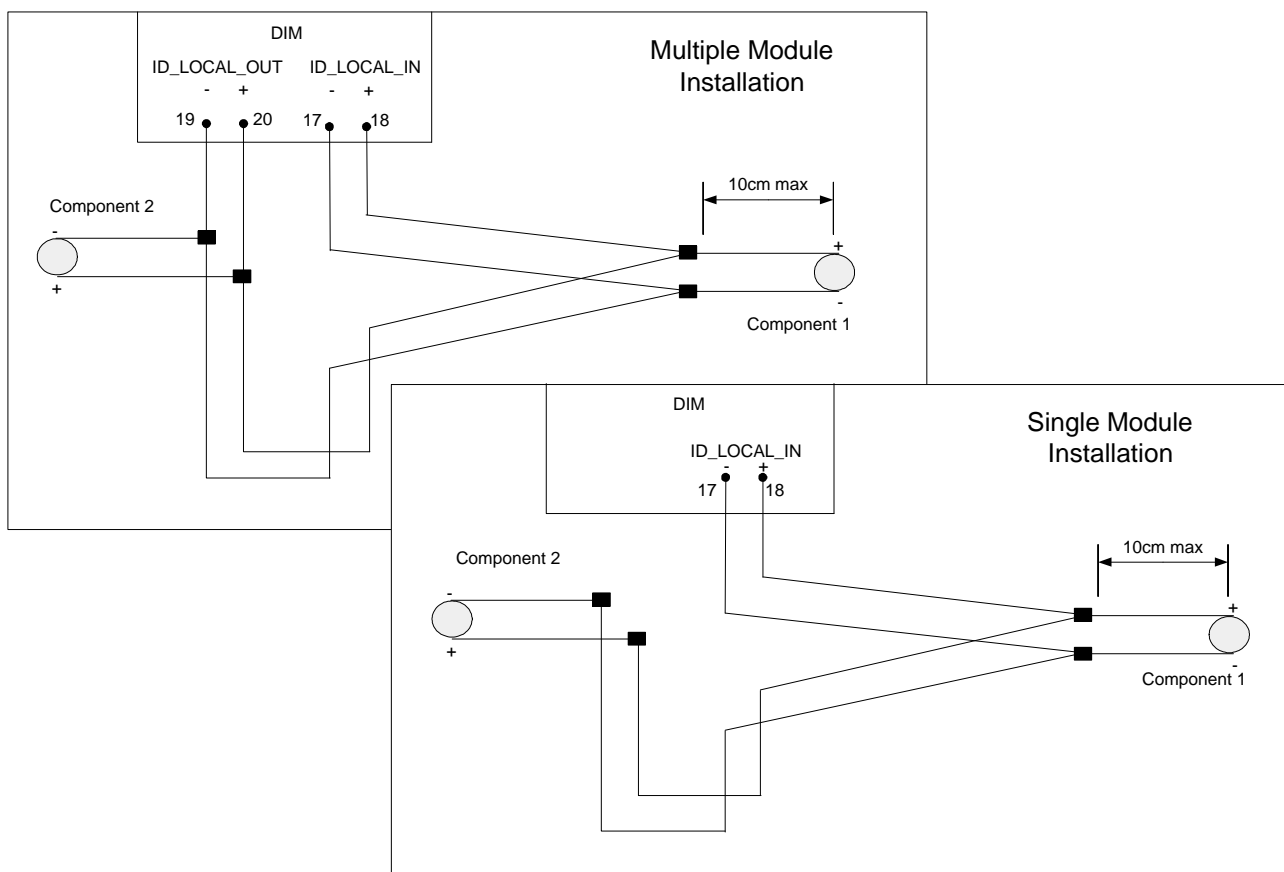

Figure 4-6 1-Wire ID Local Bus – Permitted Network Wiring Diagram
- All 1-Wire ID Data Buses shall be wired in a serial chain (see **Figure 4-6** below). Star connections are forbidden.
- Branches from the 1-Wire ID Data Bus shall be limited to 10cm maximum (see **Figure 4-6** below).